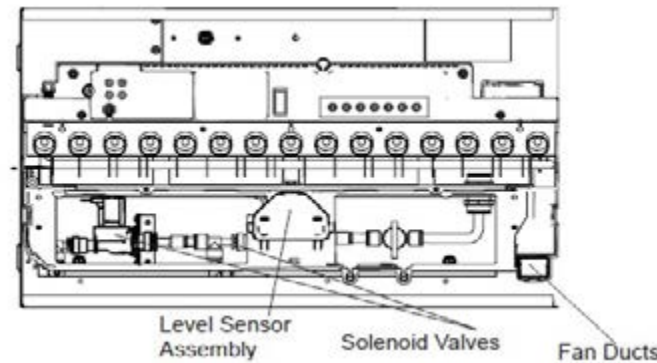

Figure 25
7. Locate the level sensor assembly. (Figure 25)
7. Locate the solenoid valve to be replaced. (Figure 25).